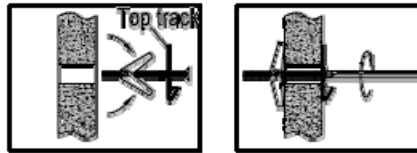

Fig. B-1
**Hang Rail Assembly:** (Fig. B-1)
13. Assemble (2) complete 63" long hang rail assembly consisting of 3 parts, (A) top rail section with hang slots. (B) Bottom rail section and (C) Hang rail connector with 2 bolts. Note: This kit also contains (1) Extra Top Hang rail section with hang slots that will be mounted by itself.